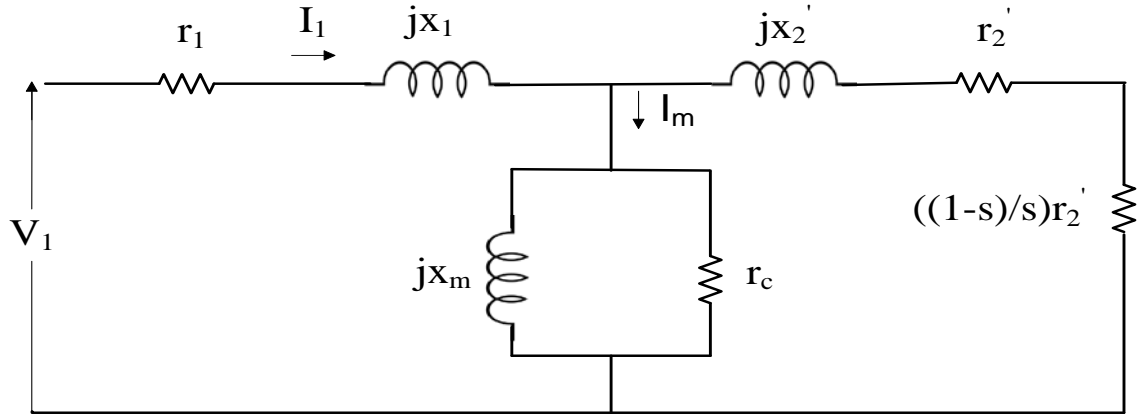
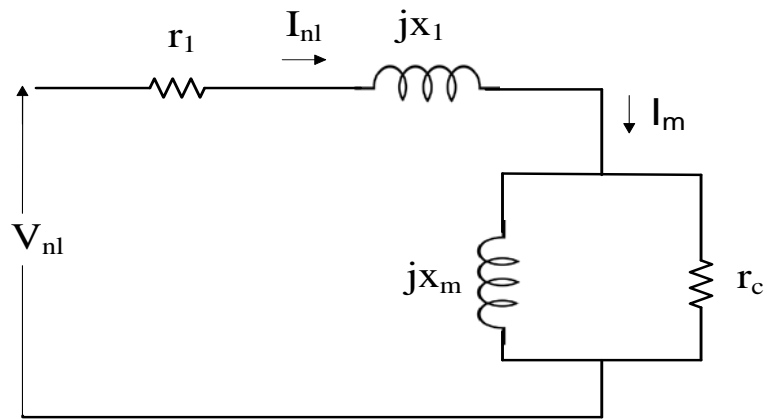
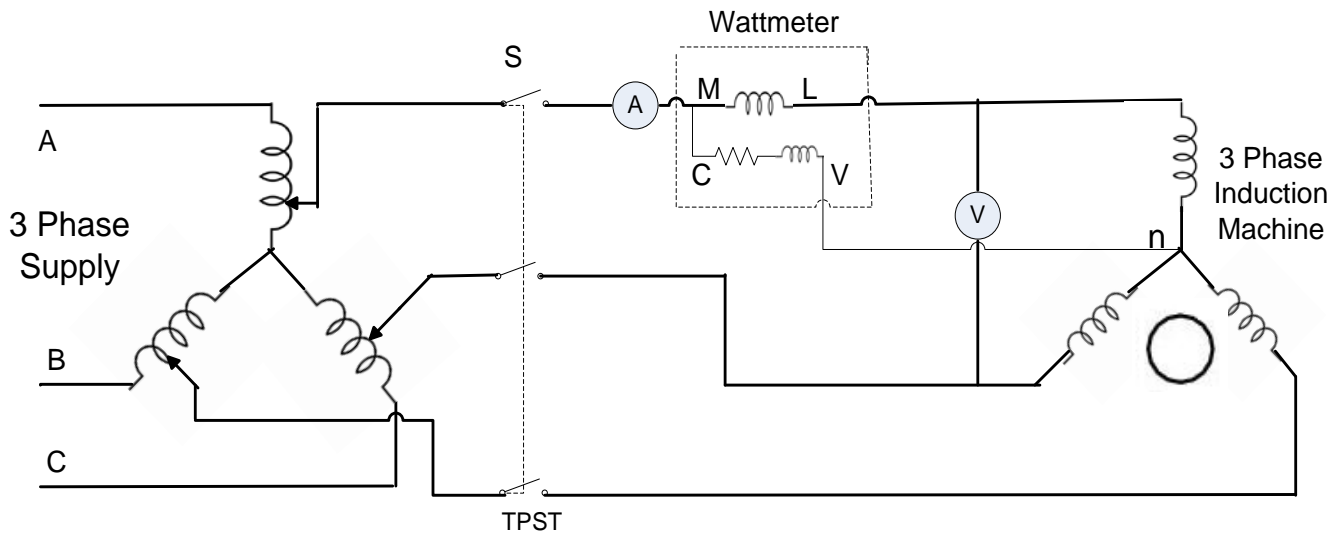

Fig. 1. Per phase equivalent circuit of 3-phase induction motor
Fig. 2. Approximate Equivalent Circuit for No-Load Test
Fig. 3. Connection diagram for performing No-load and Blocked Rotor tests on 3 phase Induction machine
The no load test is similar to the open circuit test on a transformer. It is performed to obtain the magnetizing branch parameters (shunt parameters) in the induction machine equivalent circuit. In this test, the motor is allowed to run with no-load at the rated voltage of rated frequency across its terminals. Machine will rotate at almost synchronous speed, which makes slip nearly equal to zero. This causes the equivalent rotor impedance to be very large (theoretically infinite neglecting the frictional and rotational losses). Therefore, the rotor equivalent impedance can be considered to be an open circuit which reduces the equivalent circuit diagram of the induction machine (Fig. 1) to the circuit as shown in Fig. 2. Hence, the data obtained from this test will give information on the stator and the magnetizing branch. The connection circuit diagram of no load test is shown in Fig. 3. The no load parameters can be found from the voltmeter, ammeter, and wattmeter readings obtained when the machine is run at no load as shown below:
2. Connect the circuit as shown in Fig. 3.